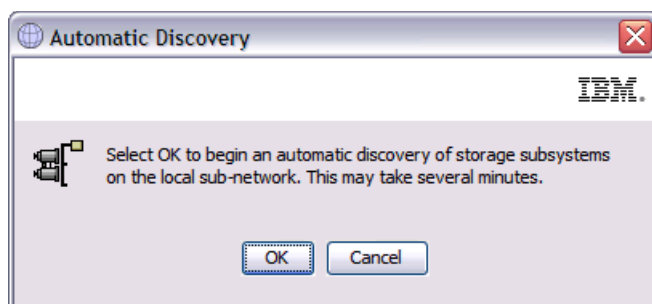

Figure 5-24 Automatic Discovery
3. Click **OK** to begin an initial automatic discovery of hosts and storage subsystems attached to the local subnetwork as shown in Figure 5-24.